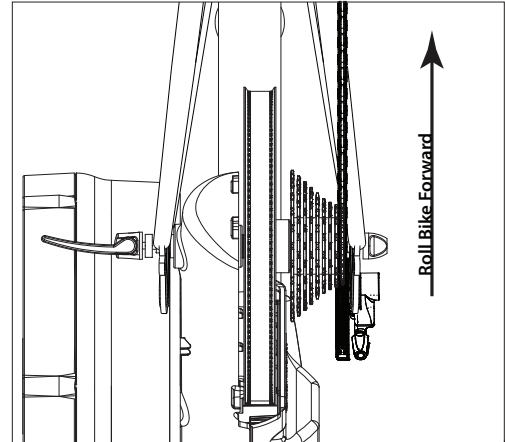

FIGURE 2.3
5. With the chain resting on the smallest sprocket and the chain stays resting on the REVOLUTION axle, press down gently on the bicycle seat and roll the bicycle forward. As the bicycle rolls forward it will drop about an inch as the dropouts seat onto the axle. (Figure 2.3)